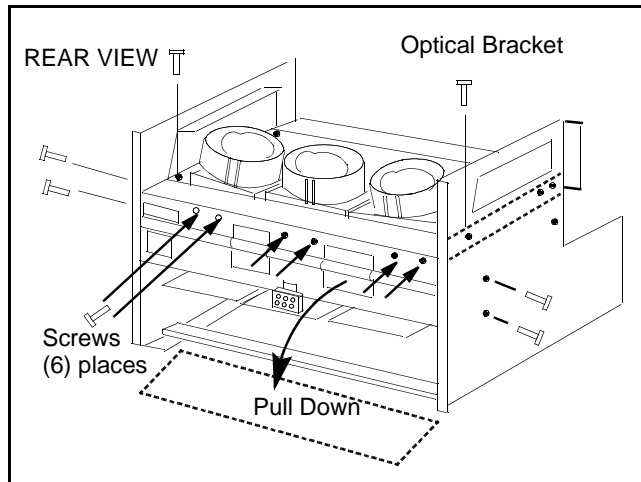

Figure 14. CRT Replacement
2. Remove the Optical bracket metal cover (rear side) by removing (6) screws from back, (2) screws from top, and (2) screws from each side. (Figure 14)